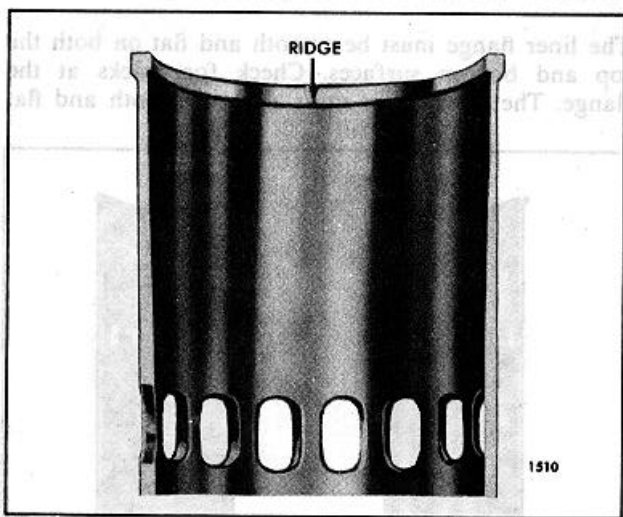

Fig. 6. Cylinder Liner Ridge Due to Wear.
2. Remove the ridge (Fig. 6) formed at the top by the piston ring travel. Otherwise, interference with the travel of the new compression rings may result in ring breakage.